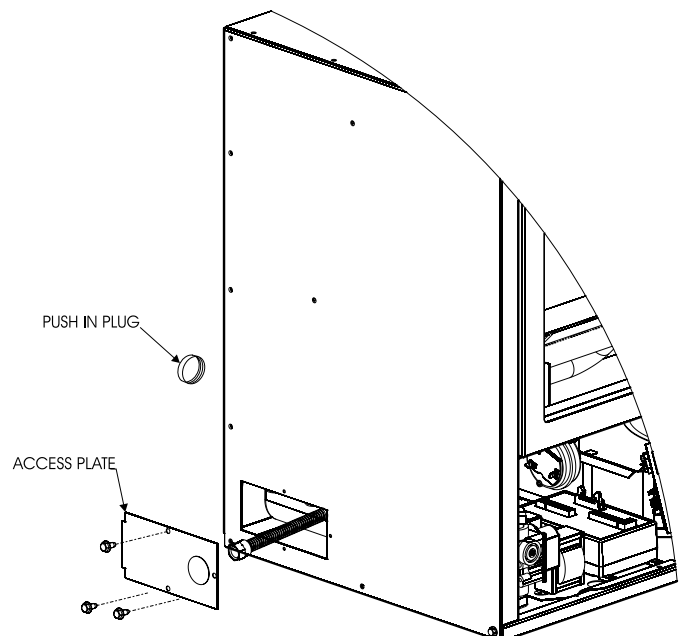

Figure 55
4. Visually verify the burners are free of dust and debris. See Figures 55 and 66.